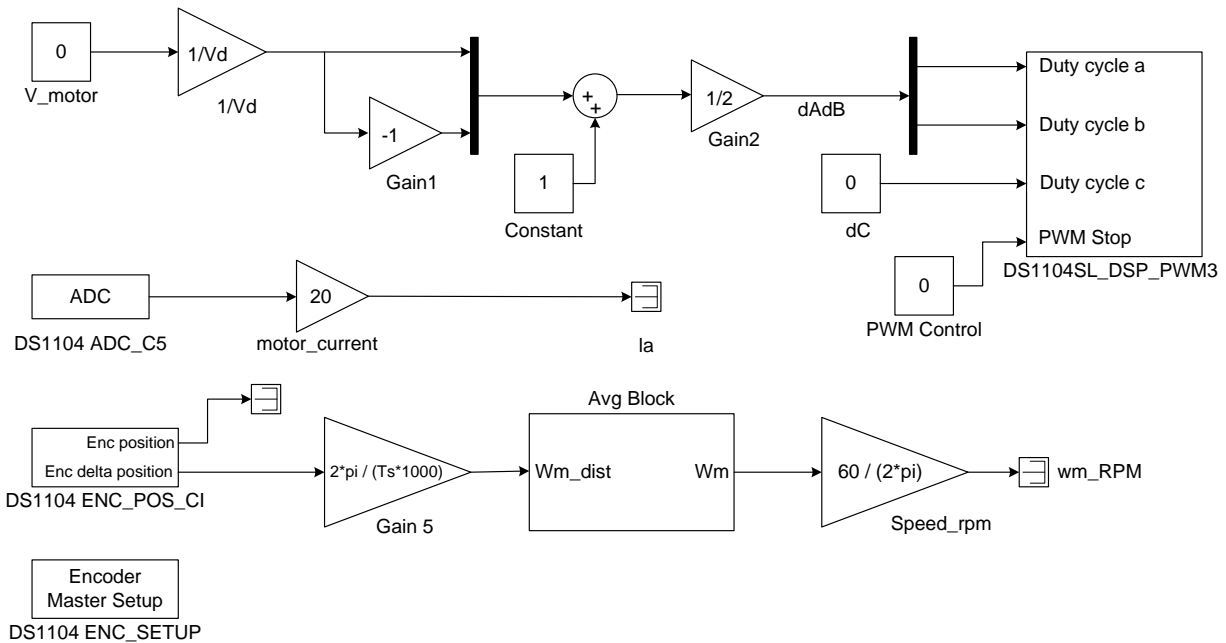

Figure 3.1: Real time Model for Open-Loop Speed Control of a DC Motor.
- Use the model for the two-pole switch-mode converter (Fig 3.1) OR download the file 'two_pole.mdl' from online.
For measuring the current, **Channel 5** of the A/D converter (**ADCH5**) on CP 1104 will be used. Remember that the data have to be scaled by a factor of 10. In addition, the current sensor outputs 1V for 2 amps of current; therefore it actually needs to be scaled by 20 (shown in Fig. 3.1).
- Download the file ‘Avg_Block.mdl’ and copy it to your folder. Connect it as shown in Fig.3.1. The output of this block is the average speed in radians/sec.
Your real-time model is now ready and should look like in Fig 3.1.